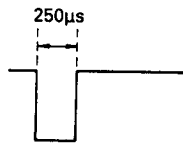

Figure 58.
3. Selecting (+) sync slope with the oscilloscope, adjust R7015 to meet the requirement given in Figure 58.